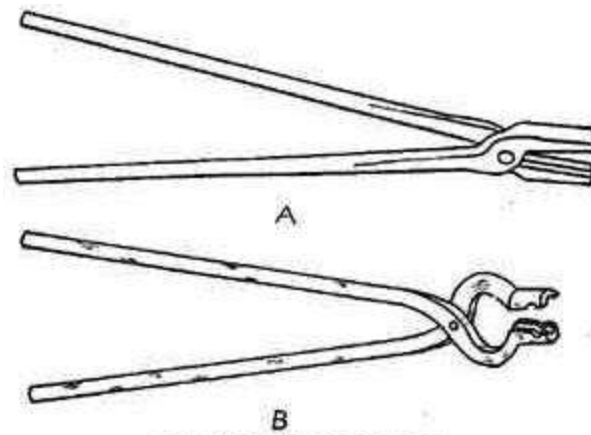

FIG. 245.—Types of tongs.
278. Tongs. -- At least one or two pairs of tongs will be needed. Various types are available, but the hollow-bit, curved-lip bolt tongs are probably the most useful. Flat bars as well as round rods and bolts can be held in them, and the curved part back of the tip makes it possible to reshape them easily to fit different sizes of stock. By grinding, filing, or sawing a groove crosswise in each of the lips, the tongs can be made to hold links practically as well as regular link tongs (see Fig. 245). Tongs 18 to 20 in. long are a good size for average work.
Fig. 245.-Types of tongs. (A). Flat-jawed hollow-bit tongs. (B). Hollow-bit curved-lip tongs. This style is very good for the farm shop. Flat bars as well as round rods and bolts can be held in them.